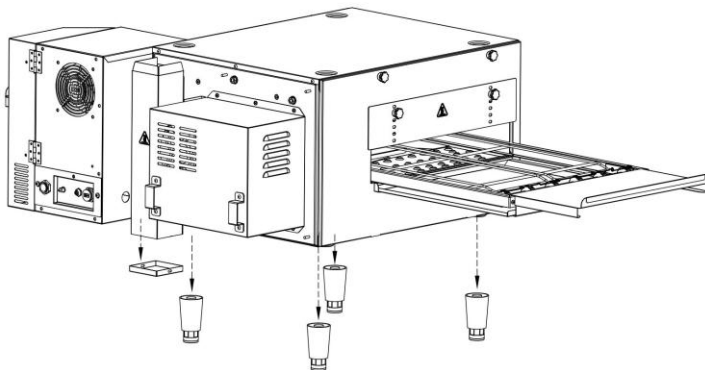

Figure 1
2. Connect impingement plates to the air outlet within the chamber. Ensure the top impingement finger assemblies are facing down, and the bottom impingement finger assemblies are facing up. Move the top impingement finger assembly to the left and make sure it is fixed by the hook. **(fig. 1)**